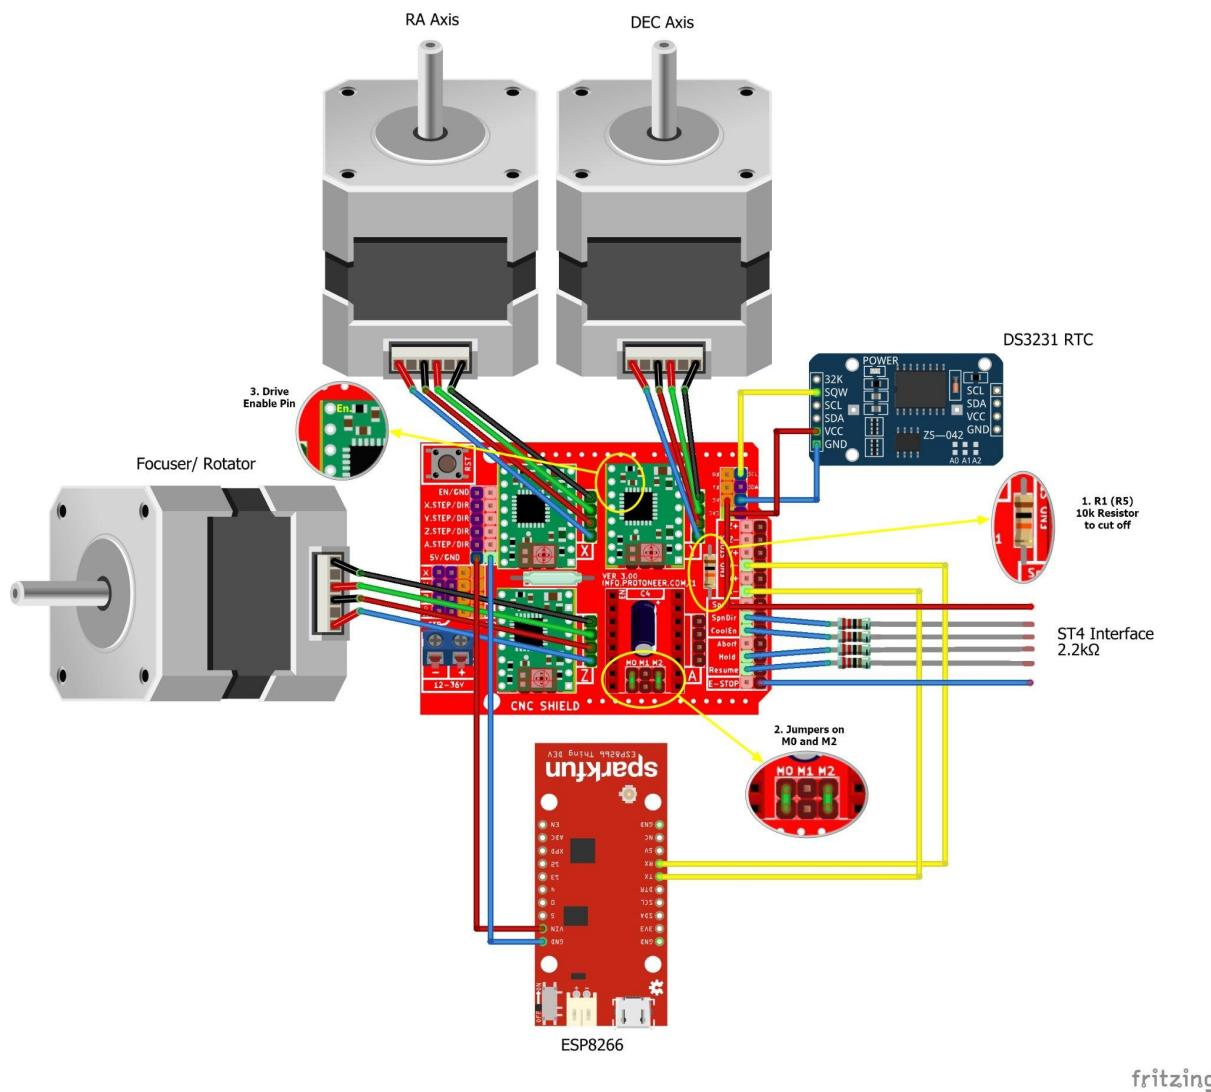

Figure 1 - Connection diagram
- Connect everything, except the motors, together according to the “Figure 1 - Connection diagram”.